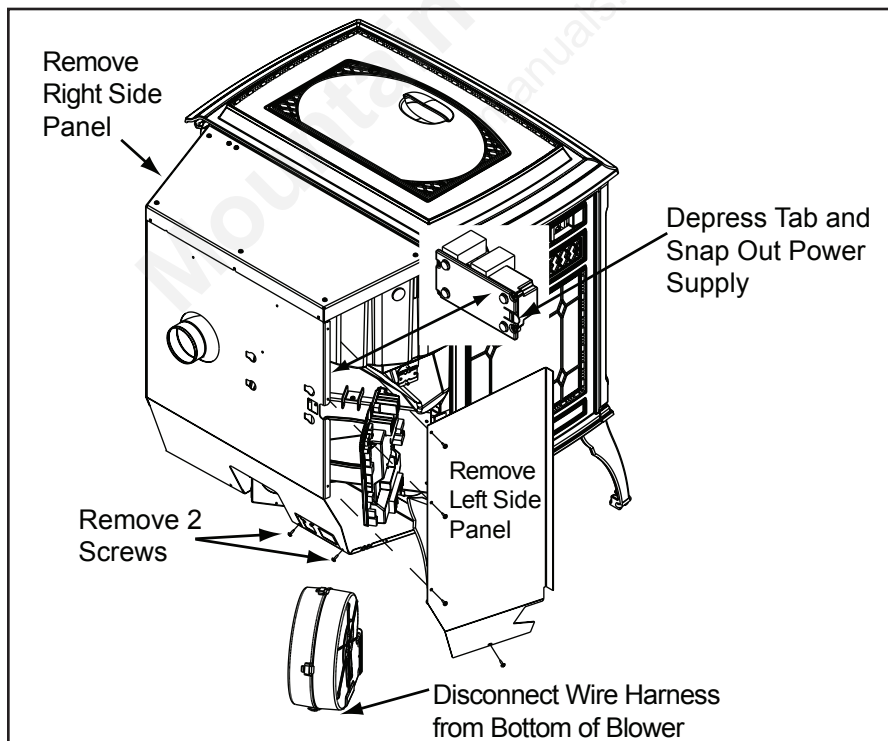

Figure 40.1
2. Remove the left and right side panels by removing the 4 screws using a Phillips head screw driver. **Figure 40.1.**
3. Depress the tab on the left side and snap out the power supply. You do not need to disconnect any wires. **Figure 40.1.**
4. Remove the 2 screws at the bottom of the back panel so there will be room to remove the blower. **Figure 40.1**
7. Disconnect the wire harness from the bottom of the blower by depressing the tabs on the sides of the connector and then pulling to remove. **Figure 40.1.**